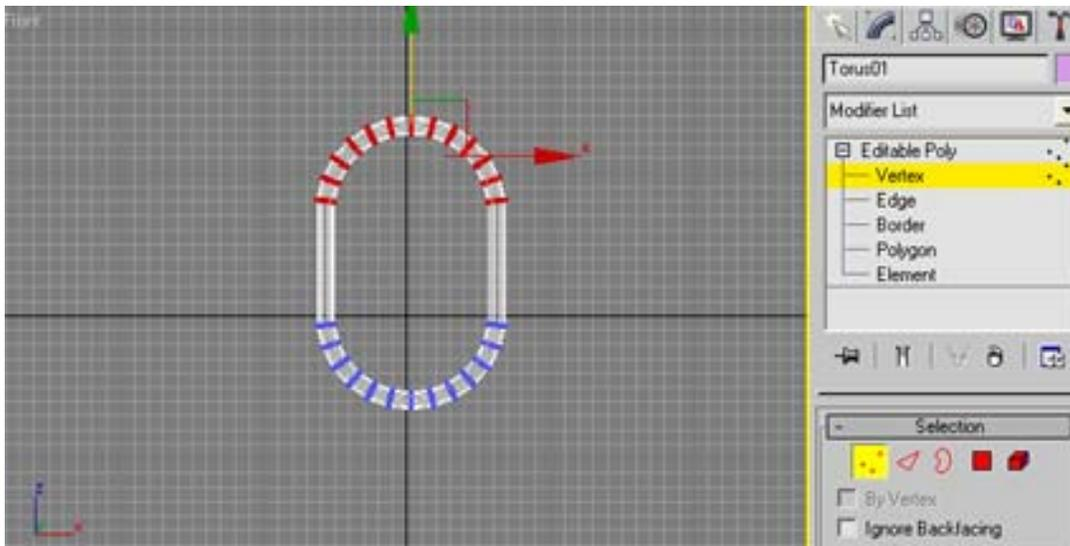

Figure 3. Front view
Step 4. Now drag-select the top half of the torus. This will select the vertices on the top of Torus01. Select the move tool.  Move these vertices up to create the shape of a chain link. In the picture below the vertices were moved 72 units up. See Figure 3 for an example of this step.